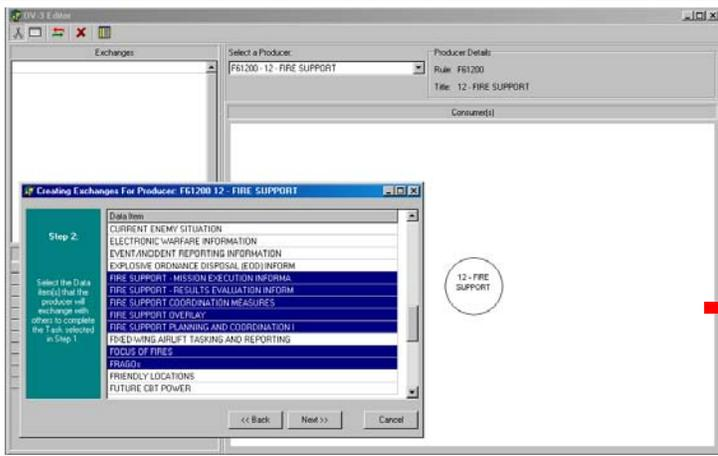

Figure 5: Exchange Wizard Step 2
STEP 2: (figure 5) The user selects the Data Item Type(s) (DIT) that the producing node will exchange with other nodes in the architecture to complete the task selected in Step 1. The user may select more than one DIT to create an “Exchange/Message Set” for a particular task.